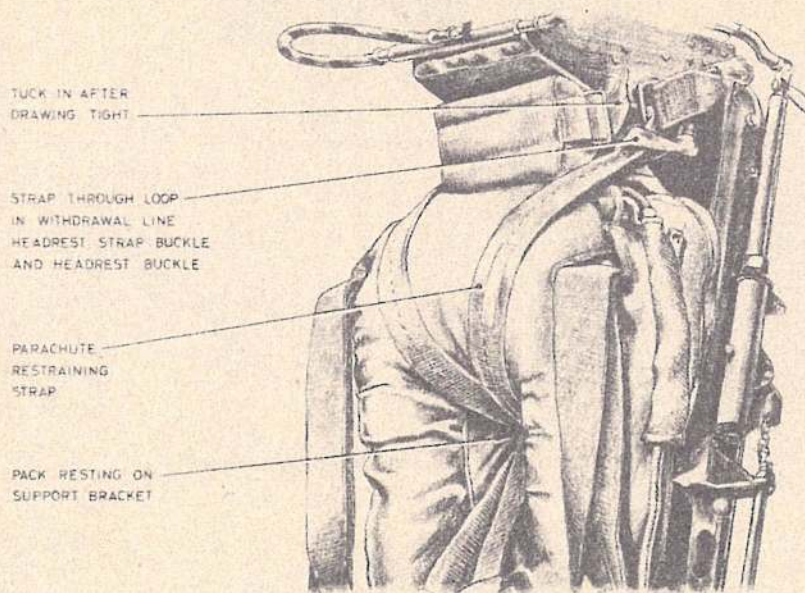

Fig. 3. Installing the parachute assembly: stage 2
- (5) Connect the anchor hook to the static line-cum-manual operating cable.
- (6) Ensure that the manual override lever is in the locked position.
- (7) Place the parachute assembly in the seat pan with the horseshoe pack uppermost, and its top end to the front of the seat.
- (8) Take up the outer shoulder straps of the main harness, ensuring they are not twisted. These are attached at the top to a metal D-shackle. Pass through the arch of the parachute pack, from front to rear.
- (9) Remove the two parachute restraining straps. These are stowed in the buckles on each side of the drogue container together with the headrest pad.
- (10) Operate the 'go-forward' lever and pull out the webbing strap from under the parachute support bracket. This strap must be held or it will spring back.
- (11) Pass the strap up through the D-shackle from inside to outside, with Mk. 23 and Mk. 33 back type parachute assemblies (pilot). With the Mk. 28 assembly (navigator), pass it down from outside to inside (reverse direction).
- (12) Each parachute restraining strap has a metal D-ring at one end. Hook these over the lug on the end of the webbing strap (fig. 3).
- (13) Still holding the webbing strap (threaded through the harness D-shackle) and the two restraining straps (hooked over lug), press down the operating lever on the starboard side of the seat. This lever is immediately below the harness release plunger on the barostatic time-release unit and withdraws the harness locking plunger. (The services of an assistant will be required here).
- (14) Insert the end lug of the webbing strap in the hole under the parachute support bracket, release the lever and the plunger will lock in the eye of the lug.
- (15) Lift the horseshoe pack into position on the support bracket and hold it there. Place the headrest cushion centrally on top of the pack.
- (16) Draw the unattached ends of the parachute restraining straps forwards through the arch and then upwards in front of the pack, towards the buckles on each side of the drogue container. Ensure the straps are not twisted.
- (17) Pass the port strap through the loop in the parachute withdrawal line.
- (18) Pass the end of the strap through the drogue container buckle from the outside inwards.
- (19) Take the starboard parachute retaining strap and assemble to the starboard buckle similarly. (There is no parachute withdrawal line to pass the strap through on this side).
- (20) Pass the ends of the parachute retaining straps through the buckles on each side of the headrest cushion so that the strap ends emerge on the outside of the buckle (fig. 3).
- (21) Work the straps back and forth in the self-locking buckles on the headrest cushion until the parachute pack and cushion are strapped tightly to the seat structure.
- (22) Connect the parachute withdrawal line to the link line by the screw coupling, ensuring:-